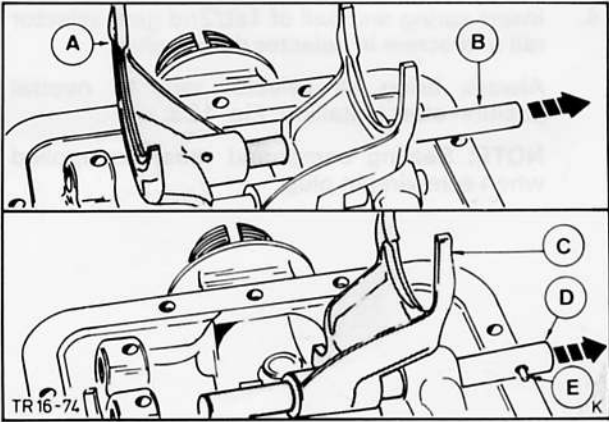

Fig. 125 A – 1st/2nd gear selector fork
1. Remove locking pin from 1st/2nd gear selector fork and rail. Then drive rail out from one side and detach selector fork. Watch out for ball and spring, Fig. 125.